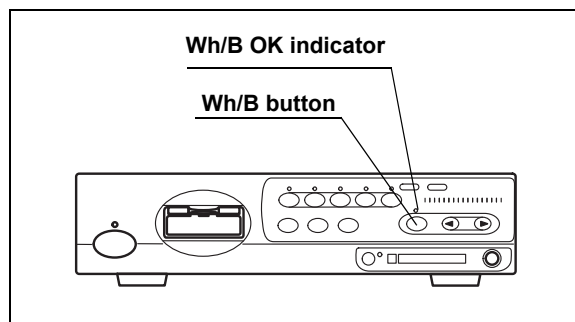

Figure 4.9
1. Confirm the lighting status of the “Wh/B OK” (Wh/B = White balance) indicator on the front panel (see Figure 4.9 and Table 4.1).